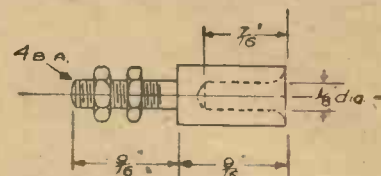

Fig. 8a.—Valve Leg.
B.A. (see Fig. 8A). They can be adjusted by placing them in position and pushing a valve right home. The nuts are then tightened up. If the valve legs cannot be made at home they can be bought for a few pence.